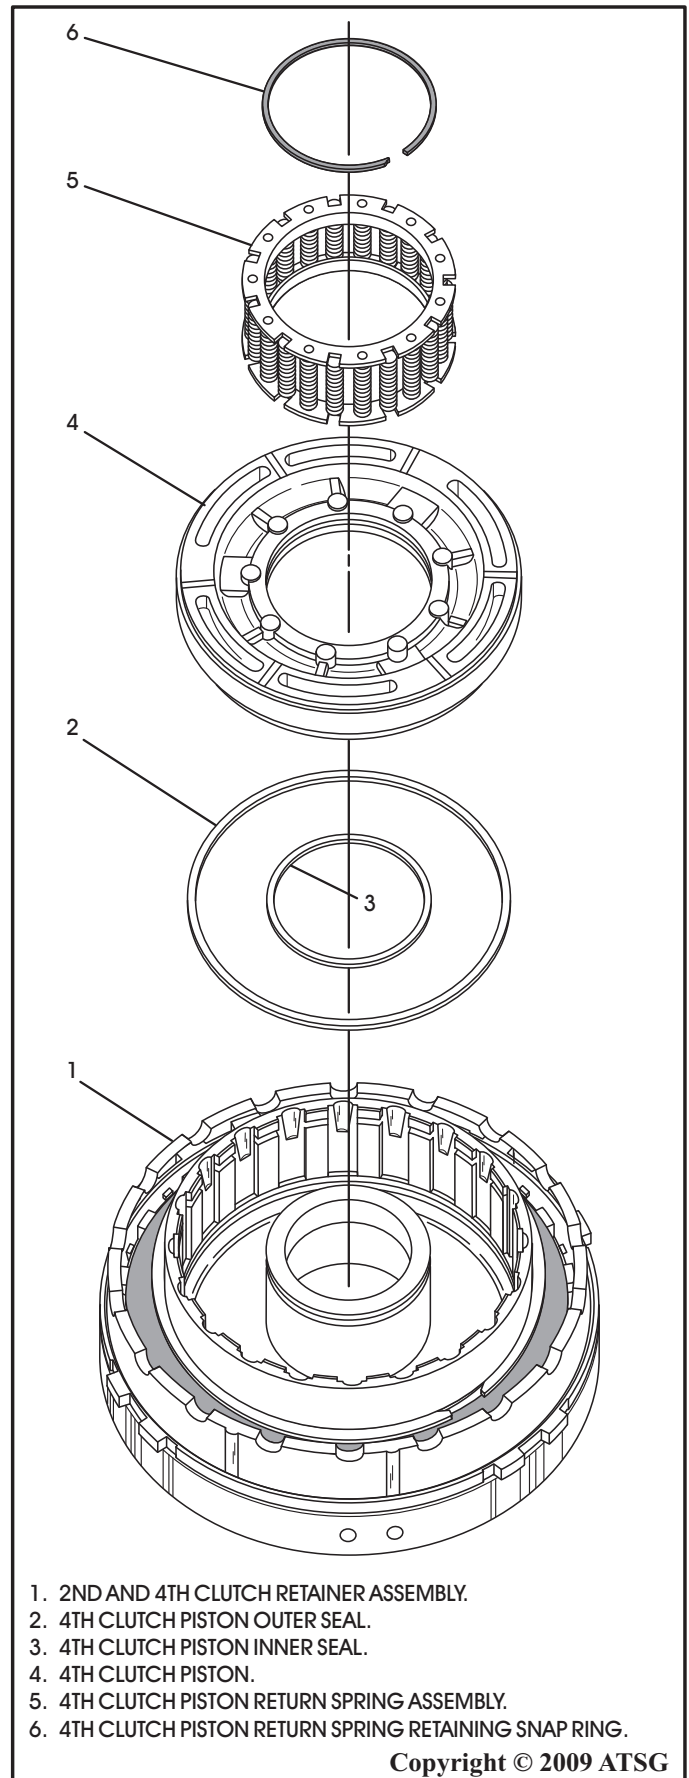

Figure 65
8. Install new inner and outer seals on 4th clutch piston, as shown in Figure 65, and lubricate with small amount of TransJel®.
9. Install the 4th clutch piston in the 2-4 retainer as shown in Figure 65.
10. Install the 4th clutch piston return spring on top of the piston as shown in Figure 65.
11. Position the return spring retaining snap ring on top of the return spring (See Figure 65).